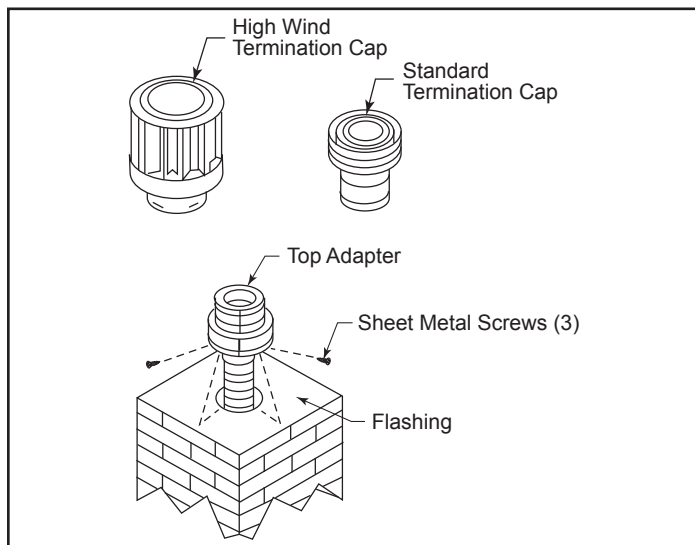

Figure 49
7. Secure the cap adapter to the flashing. Use three (3) sheet metal screws through the side of the adapter into the flange on the flashing as shown in Figure 49. Twist-lock the termination cap (980,991, 930) on to the cap adapter.